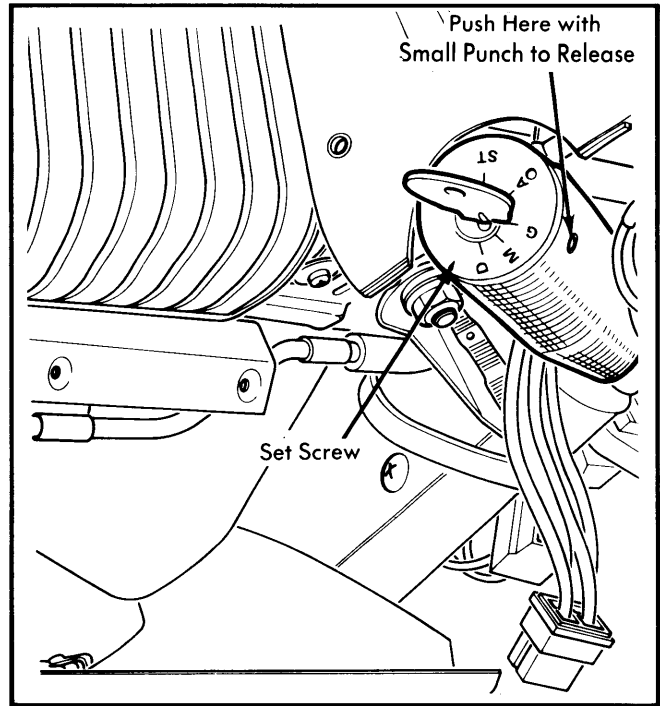

Fig. 3 Ignition Switch Removal
2) Turn ignition switch to "G" (Garage) position and remove switch. Remove set screw and press in retaining catch with a small punch. Push switch body from rear to release it. See Fig. 3.